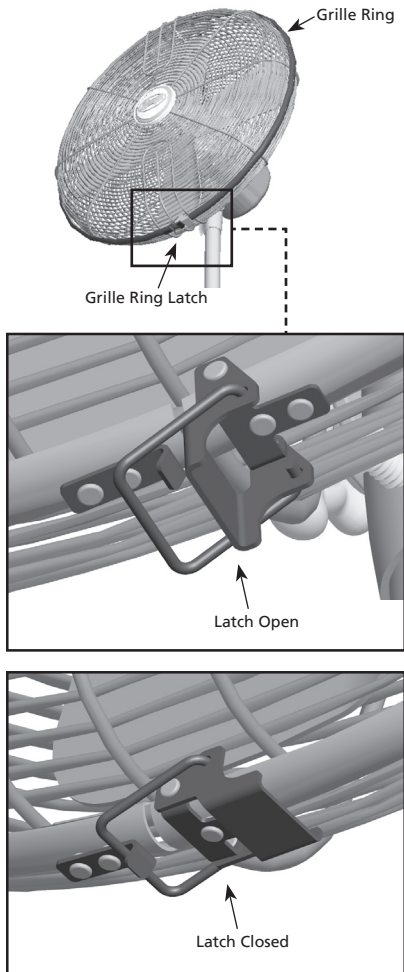

FIGURE 14
27. Place the Grille Ring over the Front and Back Grille rims, positioning the opening of the Grille Ring at the bottom of the Front and Back Grille rims. Bring the two ends of the Grille Ring together, and secure them with Grille Ring Latch. See Figure 14.